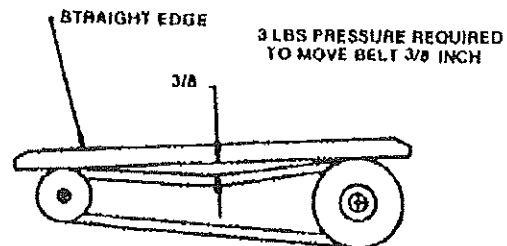

Figure 2
4. Tighten belt tensioner until belt deflection is as shown in Figure 2.